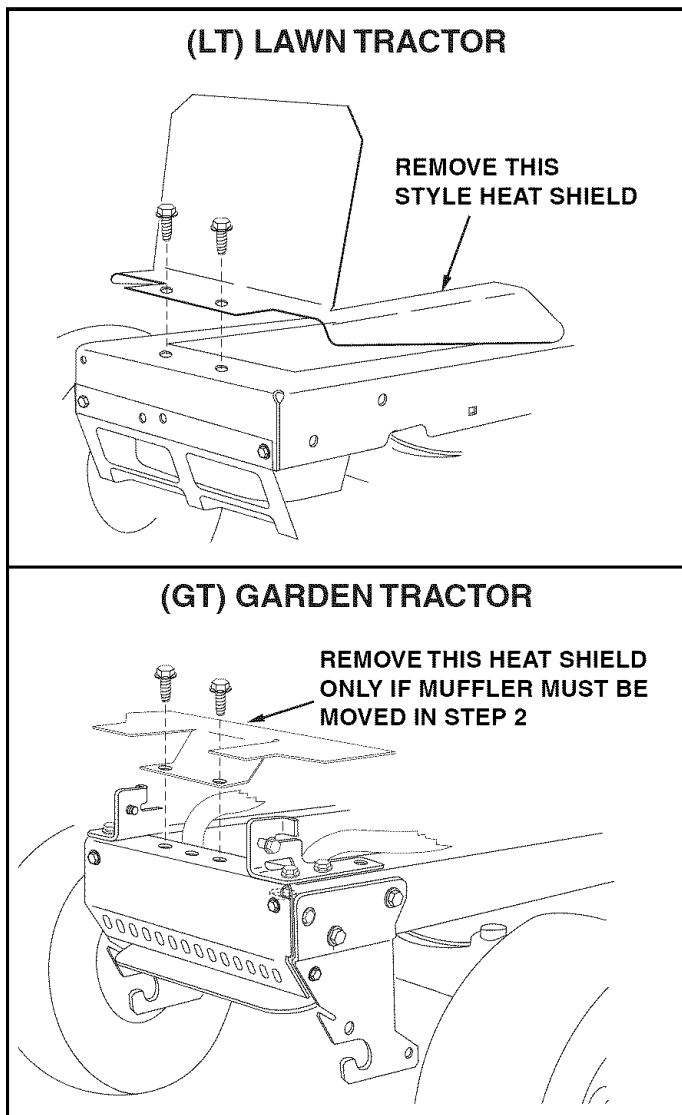

FIGURE 1
STEP 1: (SEE FIGURE 1)
- Remove an (LT) Lawn Tractor heat shield like the one shown. Remove a (GT) Garden Tractor heat shield like the one shown only if you need access to inside of tractor frame during step 2.
- Place plug (E) on a work bench or solid table and push end of bumper down onto plug. Repeat for second plug. See figure 1.